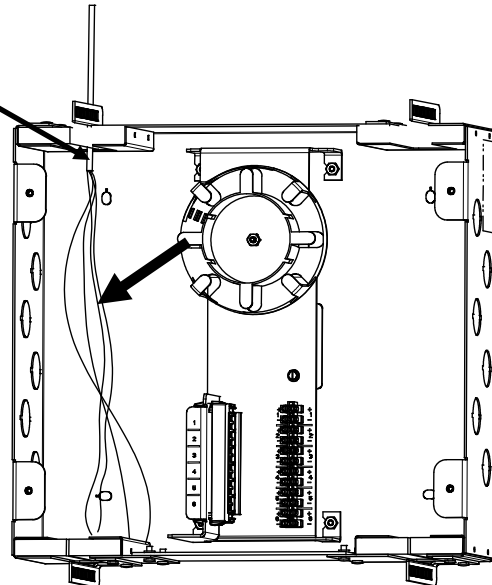

Figure 5
2. Strip the outer jacket of the PFC using a round cable stripper so that there is approximately 25mm of jacket extending inside the box, as shown in **Figure 5**. Trim any strength members or other cable components except for power conductors and fibers.